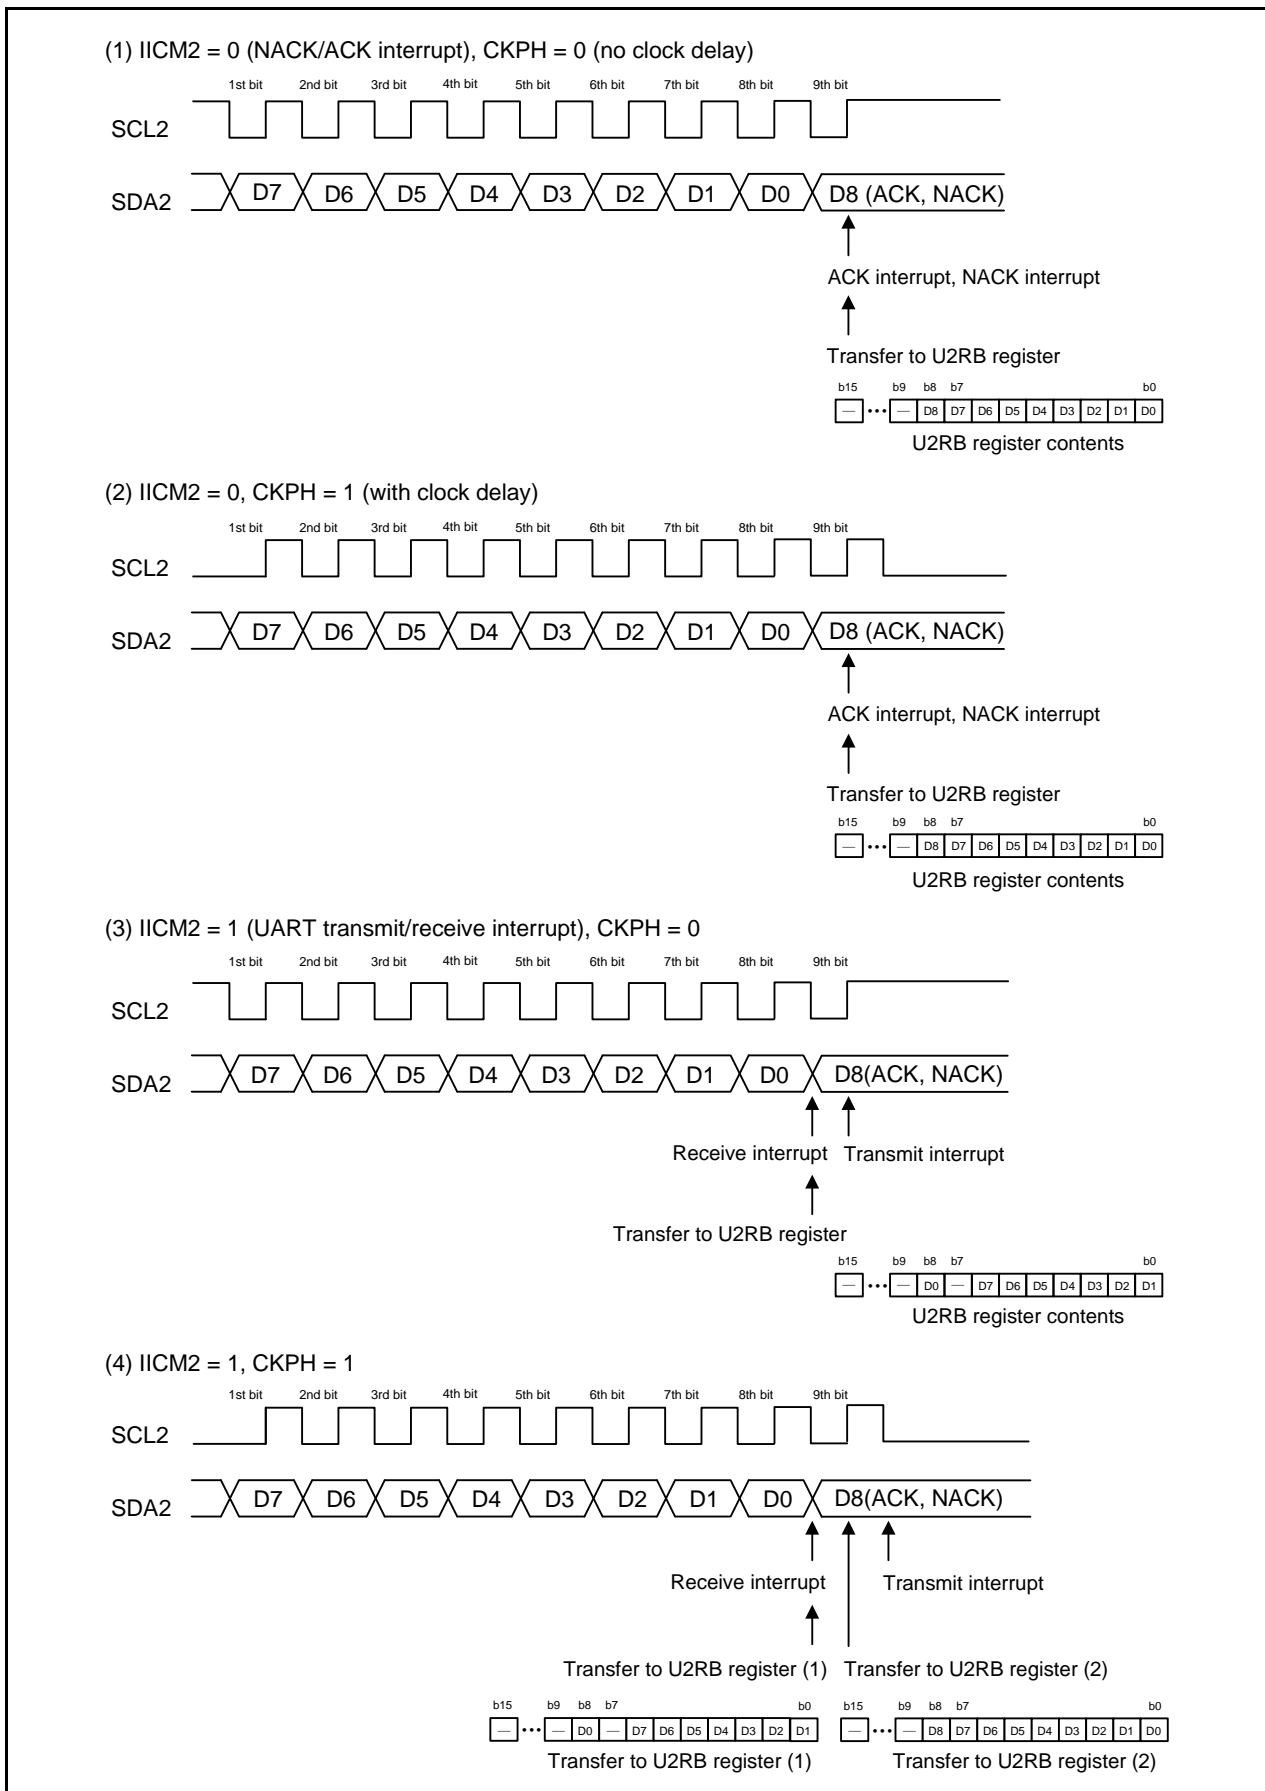

Figure 20.14 Transfer to U2RB Register and Interrupt Timing
I²C mode is provided for use as a simplified I²C interface compatible mode. Tables 20.9 and 20.10 list the Registers and Settings Used in I²C Mode, Table 20.11 lists the I²C Mode Functions, and Figure 20.14 shows the Transfer to U2RB Register and Interrupt Timing.
5. Refer to **Figure 20.14 Transfer to U2RB Register and Interrupt Timing**.
The transfer clock is used to transmit and receive data as is shown in **Figure 20.14 Transfer to U2RB Register and Interrupt Timing**.